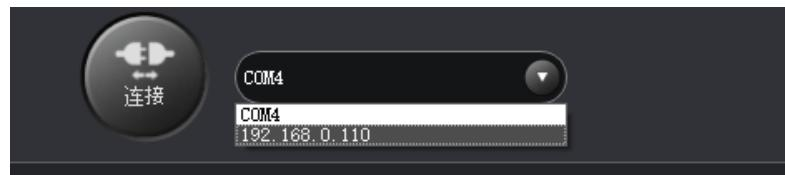

Figure 5.164 IP address of Dobot Magician
Step 8 After 2 seconds later, select the IP address from the drop-down list on the upper left pane of the DobotStudio page and click **Connect**, as shown in Figure 5.164.